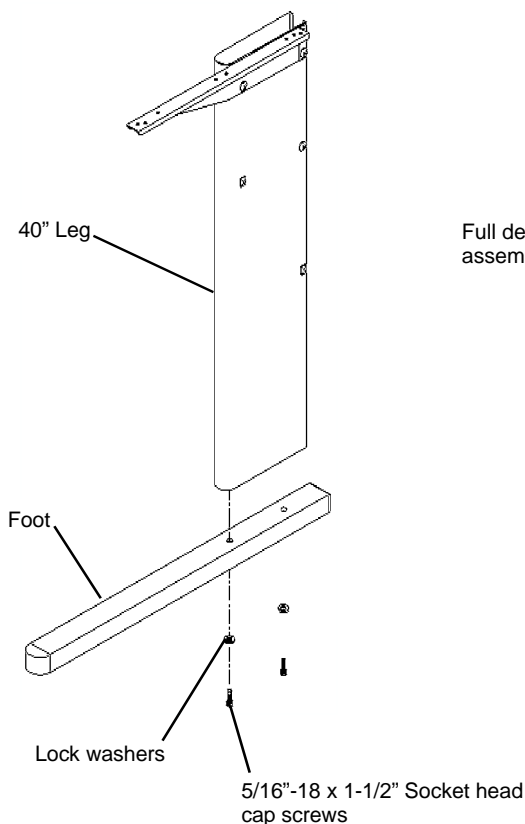

Figure 1
1. Attach a **Foot** to each 40" Leg using two 5/16"-18 x 1-1/2" socket head cap screws and two lock washers. See **Figure 1**.